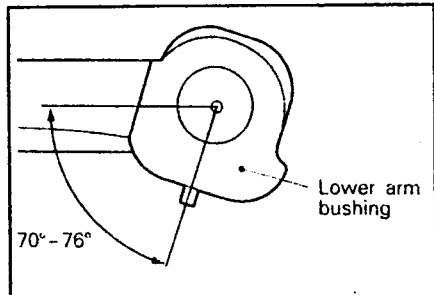

Fig. 10.7 — The angle position of the suspension arm rubber bush. Mark the old bush on the arm before removal.
- Mark the fitted position of the bush on the suspension arm to obtain the angle shown in Fig. 10.7. Soak the old bush and the spigot with soapy water and then use a screwdriver to lever the bush off the spigot.